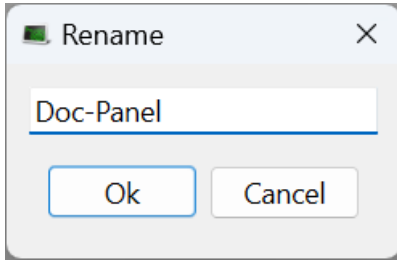

Figure 2-3: Rename dialog box with changed name
3. Change the Panel name. (Figure 2-3)